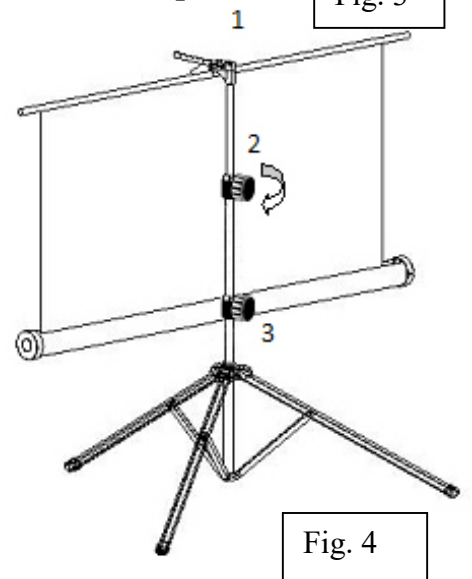

Fig. 4
*136" models see Fig. 4 on next page.
Follow the steps below and Fig. 4.